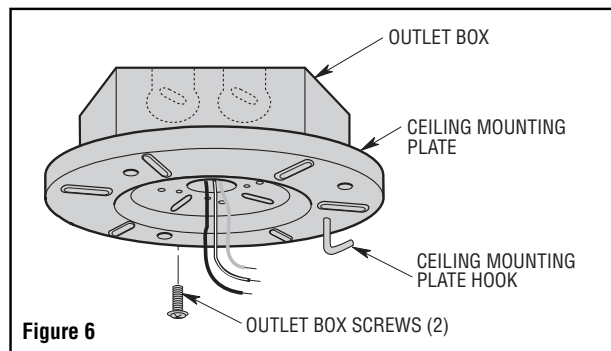

Figure 6
2. Pull the electrical supply black, white and ground wires through the center opening of the ceiling mounting plate before securing the plate to the outlet box (Figure 6).
3. Position the ceiling mounting plate onto the outlet box and secure using the two outlet box screws, supplied with outlet box (Figure 6).